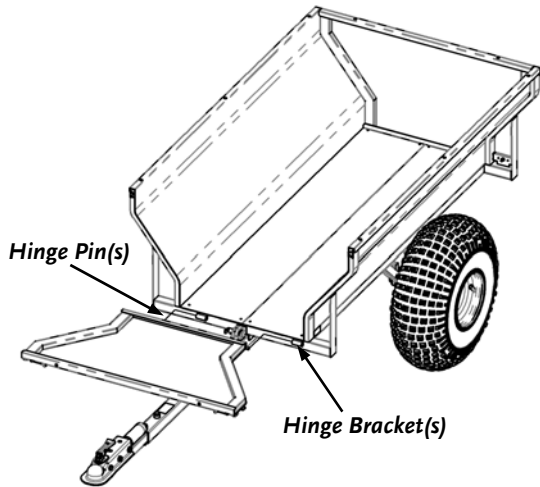

Figure 17
16. Install the Front and Rear Tailgates by aligning the Hinge Pins on the Tailgates with the Hinge Brackets on the Frame and slide the Tailgates to the Right (**Figure 17**).